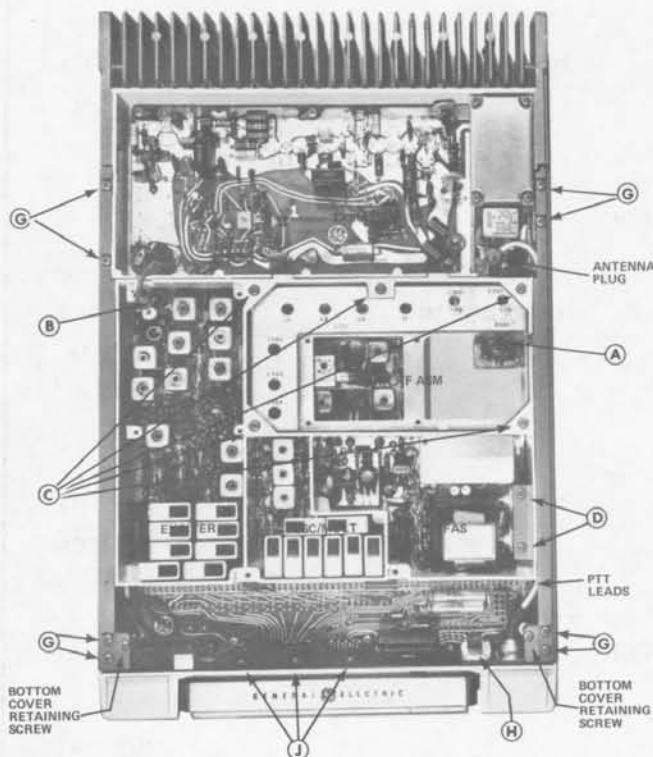
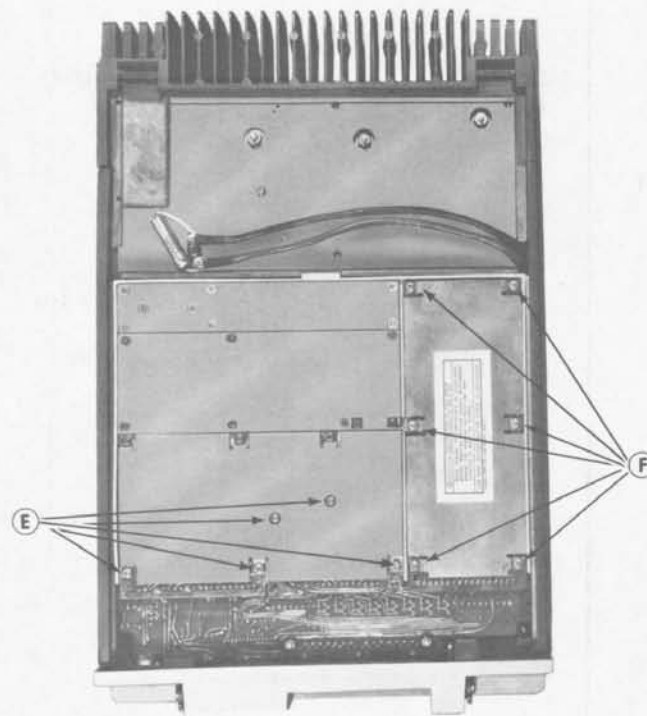

Figure 6 - Disassembly Procedure (Top View)
Figure 7 - Disassembly Procedure (Bottom View)
4. Remove the five screws ⑤ holding the receiver boards to the module mounting frame (see Figure 7).
5. Remove the six screws ⑥ holding the exciter board and its bottom cover to the module mounting frame.
7. Remove the four screws ⑦ in each of the side rails and remove the side rails (see Figure 6). NOTE: Remove the shield on the left side rail to expose the power cables, and if desired, unsolder the cables from the bottom of the PA Assembly.
9. If it is necessary to remove the System Board from the front casting, remove the mounting screw ⑧ from regulator transistor Q901. Then remove six screws ⑨ (three along the top and three along the bottom) on System jack J901 and remove the System Board.